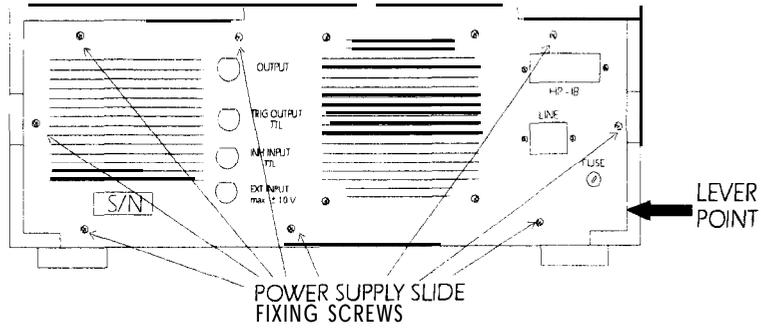

Figure 4-4.
1. Remove the 8 screws securing the power supply slide at the rear panel of the chassis. See Figure 4-4.
2. Disconnect the power supply from the motherboard by levering the power supply slide with a flat screwdriver at the lower right hand side corner at the rear panel (close to the fuse), then pull the power supply slide out of the chassis. Figure 4-4 shows the lever point, at the rear panel.